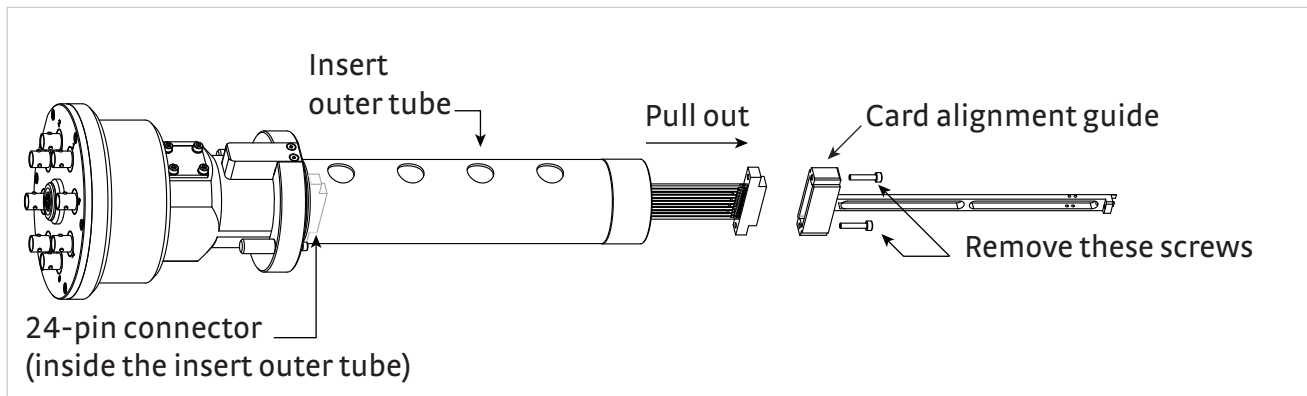

FIGURE 5-1 Remove the M3 screws from the card alignment guide, then pull out the middle wiring board
10. Push to attach the bare end of the middle wiring board into the 24-pin connector at the bottom of the insert outer tube (FIGURE 5-1).